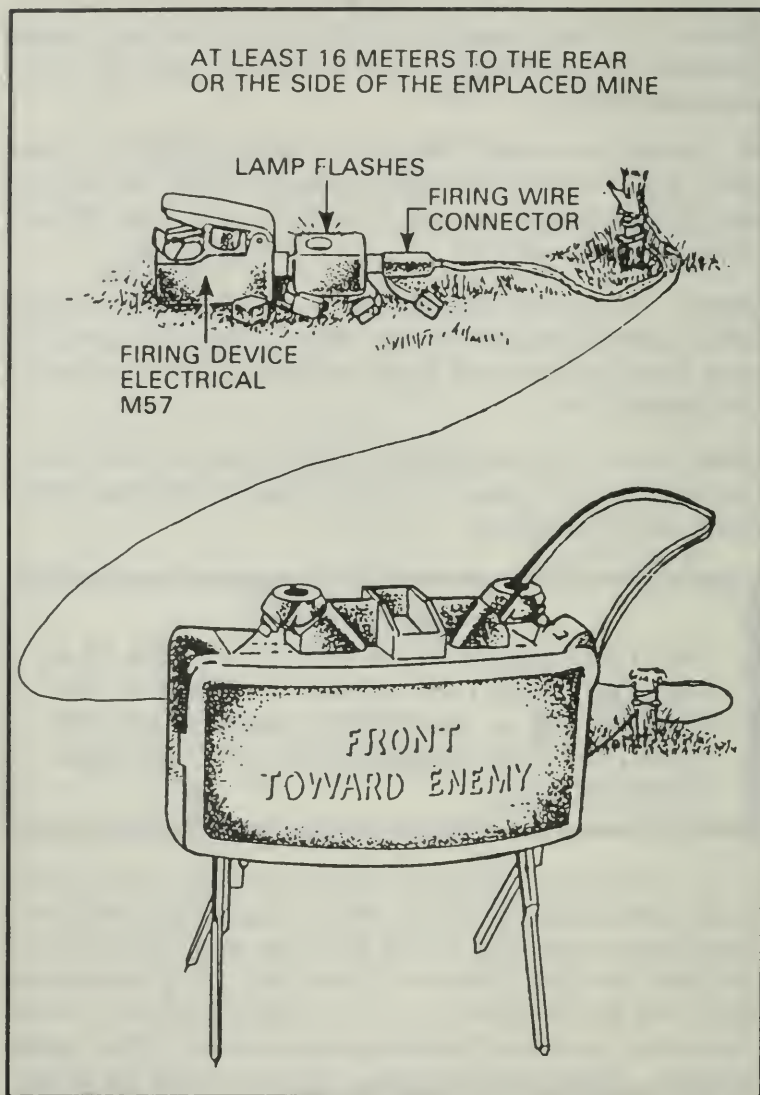

Figure 204. Retesting the circuit.
6. Retest the circuit. Retest the circuit after the firing wire is laid out and the cap is placed inside the mine to see if any breaks in the wire have occurred (Figure 204).